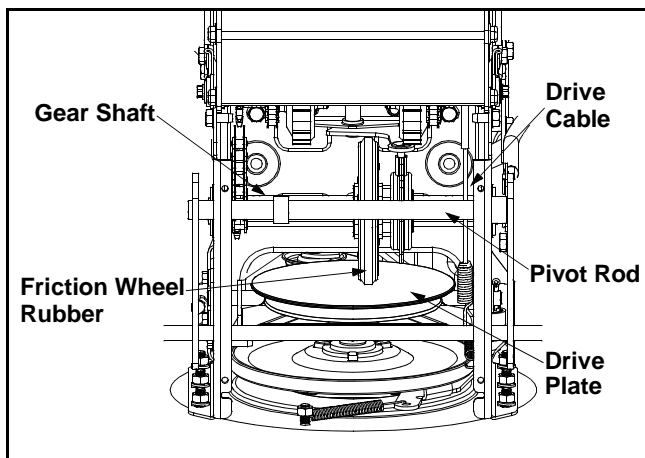

Figure 9
- With the traction control engaged, the friction wheel must contact the drive plate. See Figure 9.
Lubricate the gear shaft with 6-n-1 grease at least once a season or after every 25 hours of operation (available at automotive stores, or order part number 737-0170). Refer to Figure 9.
Lubricate at least once a season or after every 25 hours of operation. Remove the rear cover, lubricate any chains, sprockets, gears, bearings, shafts, and shifting mechanism at least once a season. Use engine oil or a spray lubricant. **Avoid getting oil on the friction wheel rubber and aluminum drive plate.** Refer to Figure 9.